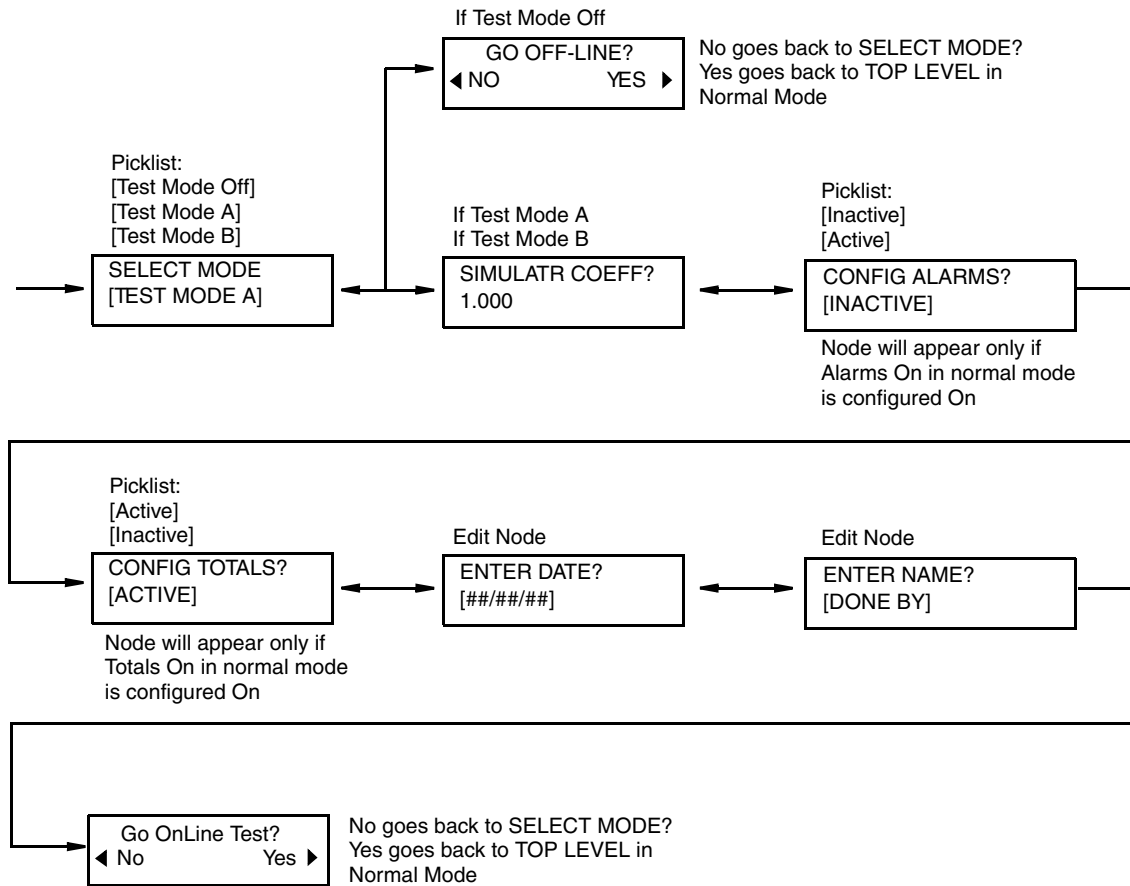

Figure 2. Selecting the Test Mode (first time)
2. Use ↑ and ↓ to choose **Test Mode A**, **Test Mode B**, or **Test Mode Off**. See Figure 2.